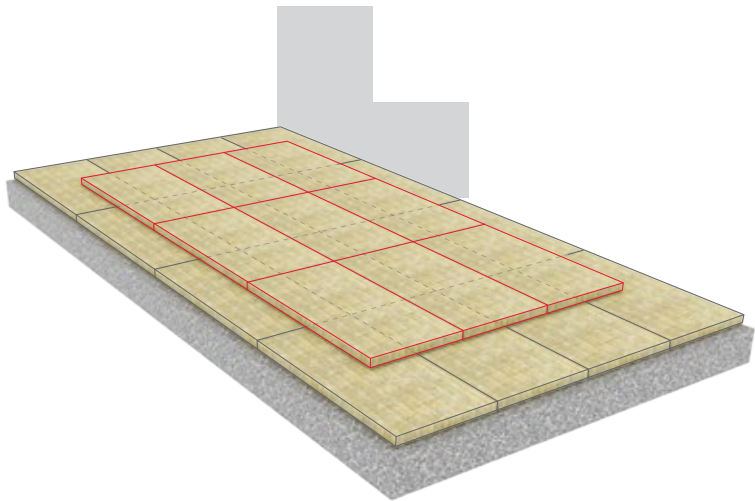

Figure 20. Schematic showing Comfortboard jointing below a slab-on-grade assembly
- Loosely lay the insulation over a firm, level subgrade. When using multiple layers of Comfortboard, the board joints should be overlapped for added strength as shown in **Figure 20**.